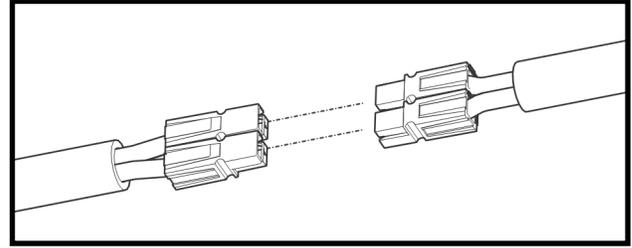

Fig. 4 (Connect Power Harness to Fan)
- Per Fig. 4, connect the power harness to the fan harness and secure the power harness to the ROPS with cable ties.